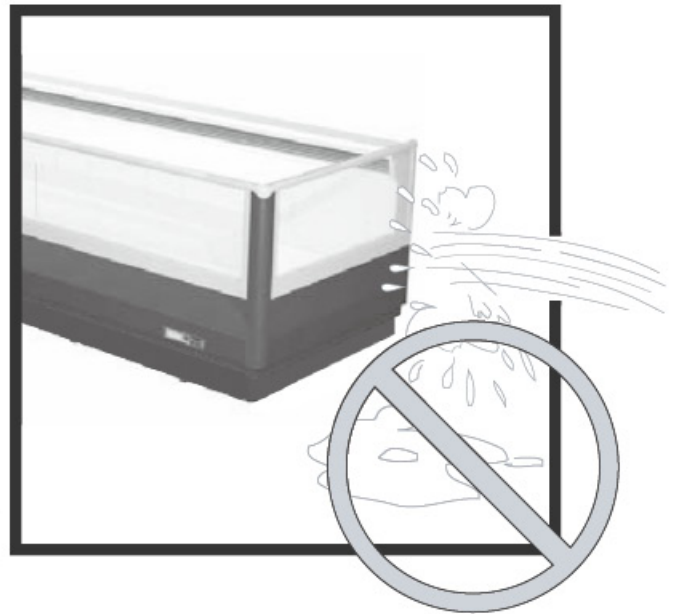

fig. 16
Do not spill water directly or indirectly on the display case (fig. 16). Do not touch the machine with damp or wet hands or feet; do not use it while barefoot (fig. 18).
1) Every week clean the outer surfaces of the display case with mild soap or detergent in lukewarm water only. Wipe carefully with a soft cloth. Never clean it using inflammable or scouring agents alcohol, acetone or solvents. NEVER CLEAN THE DISPLAY CASE BY THE USE OF WATER JETS (fig. 16). Clean glass surfaces using glass-cleaning products only. The use of water is not recommended here, as it may cause scale to build up.